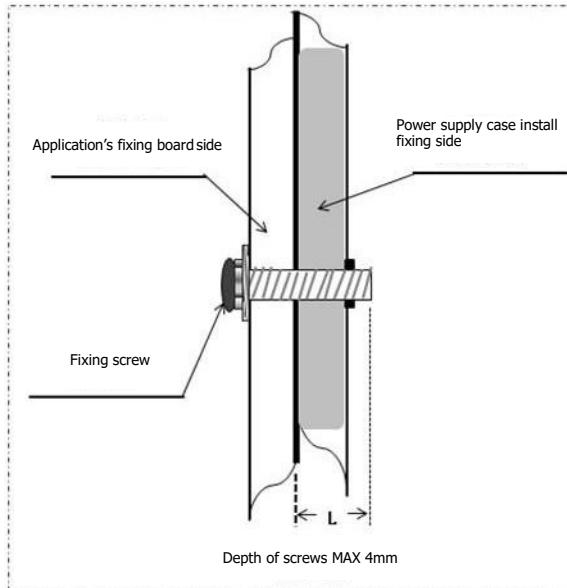

Fig. 1 EN200 Mounting Screw Specifications and Torque
**Pay attention to the screw penetration depth** to avoid piercing the internal insulation sheet, causing leakage or failure. Specific specifications should follow the product technical manual and customer application environment. As shown in Fig. 1 (EN200 example), the recommended screw penetration depth should **not exceed 4mm**.
The power supply sides have screw holes. Customers can use appropriate screws according to the application environment (similar to DIN rail mounting). **Pay attention to the screw penetration depth** to avoid piercing the internal insulation sheet, causing leakage or failure. Specific specifications should follow the product technical manual and customer application environment. As shown in Fig. 1 (EN200 example), the recommended screw penetration depth should **not exceed 4mm**.
Ensure screws are aligned with the holes. Tighten screws to the **recommended torque** specified in the "Technical Manual → Outline Drawing → Recommended Torque" section. Avoid cross-threading or stripping caused by misalignment. Example: EN200 recommended max torque is **0.9N·m** (see Fig. 1).